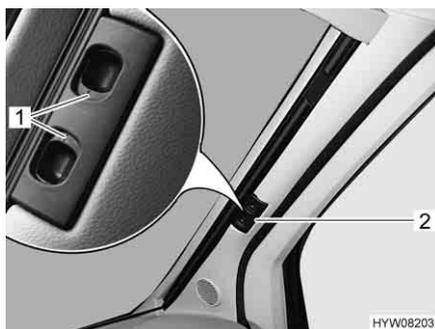

Fig. 38 Roman shade for the windscreen
- Use the handle (Fig. 38,2) to pull the two halves of the Roman shade for the windscreen outwards as far as they will go. When doing so, move the handle horizontally in the direction of the locking recess.
- Allow the release handles (Fig. 38,1) to engage.